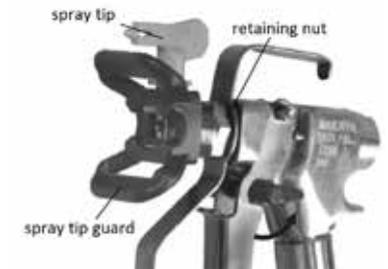

Fig.10
9.5 Attaching the spray tip guard and spray tip (Fig.10)